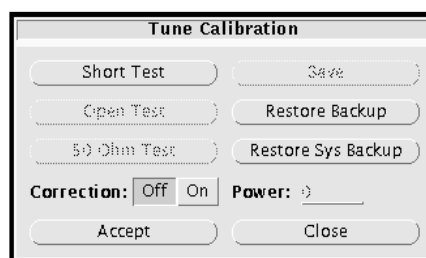

Figure 15. Tune Calibration Window
2. Click the **Calibrate** button on the Tune Control Panel. The Tune Calibration window opens (see Figure 15).
- Click the **Calibrate** button on the Tune Control Panel. The Tune Calibration window opens (see Figure 15).